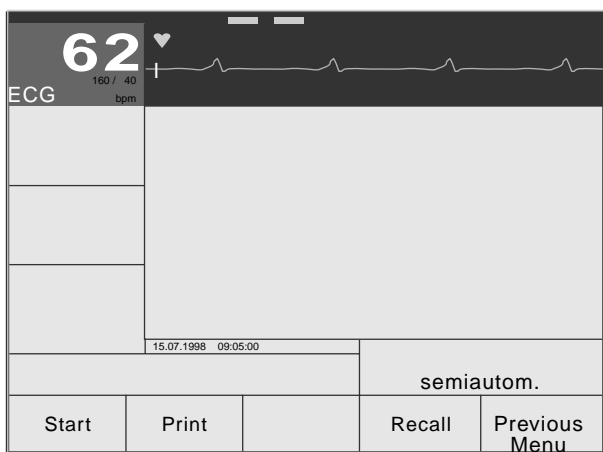

Figure 8-1. 12SL analysis menu
- Display the 12SL menu with **F4** **12SL** (Figure 8-1).